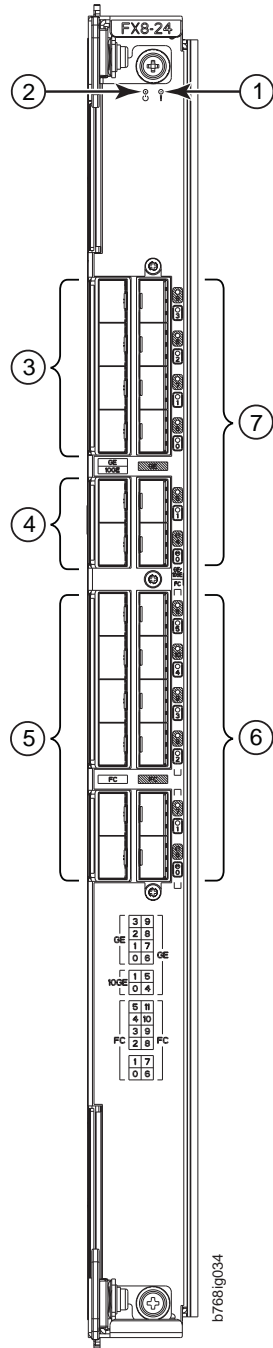

Figure 19. FX8-24 extension blade
- Figure 19 on page 47 illustrates the FX8-24 extension blade